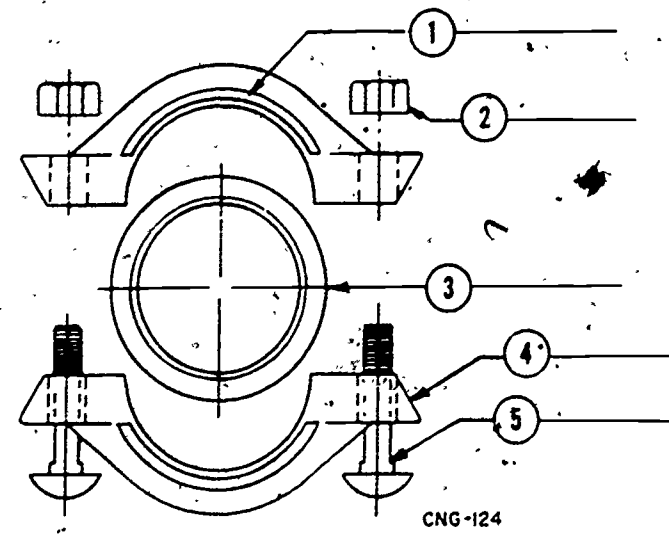

Figure 7. Grooved Coupling
7. Identify the major components of a mechanical grooved coupling, see figure 7, by writing the name of each component in the blank space provided.